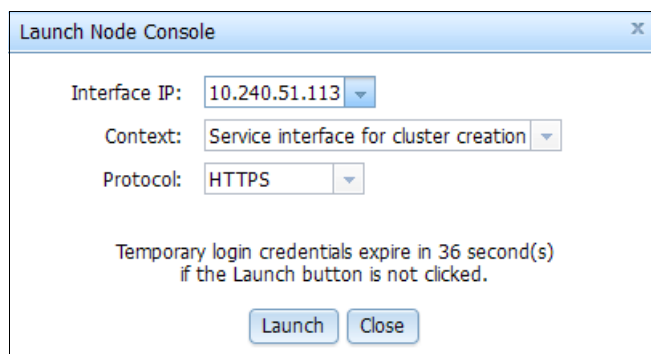

Figure 4-9 CMM - Launch Node Console
3. A browser window displays the IBM Flex System V7000 Storage Node system startup screen. The Service IP address displayed will be one that has been allocated by your DHCP server as shown in Figure 4-9.
After clicking Launch in Figure 4-9, you will have an option to Create a new system or Add to an existing system as shown in Figure 4-10. We select Create a new system then click Next.